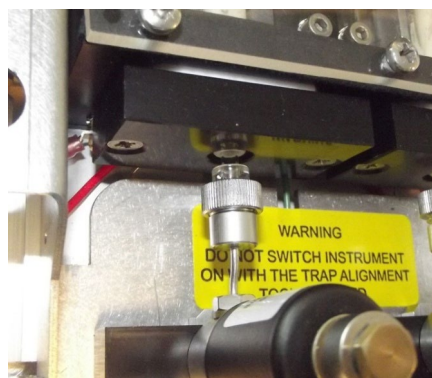

Figure 6: Fixing the trap pneumatics onto the system.
- Align the trap pneumatics with the cold trap and trap box, and tighten the screws either side to fix the trap pneumatics onto the instrument (Figure 6). Take care to hold the assembly in place until the screws have been fully tightened.